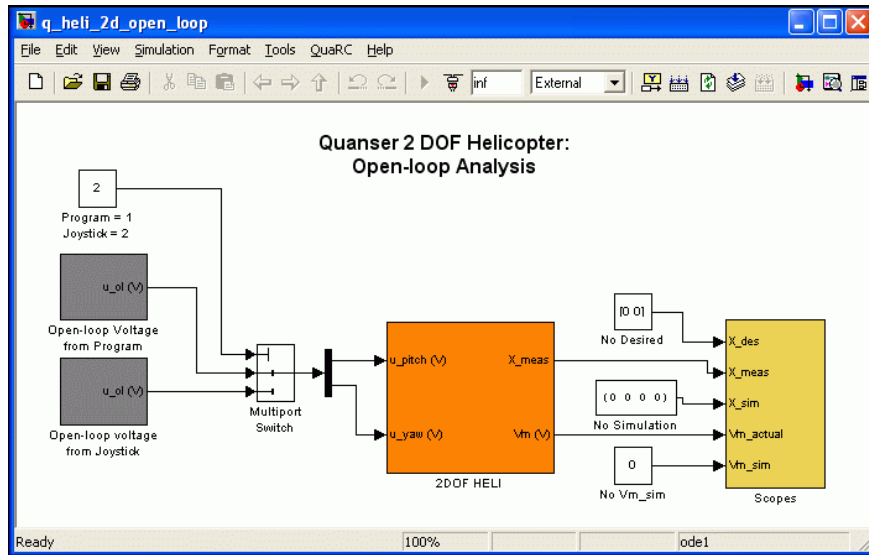

Figure 4: Simulink diagram to run 2DOF Helicopter in open-loop with QUARC
2. Open Simulink model *q_heli_2d_open_loop.mdl* shown in following Figure 4. The model runs your actual 2DOF Helicopter plant by directly interfacing with your hardware through the QUARC blocks, described in [1].